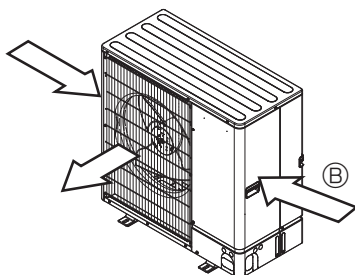

Fig. 2-23
- ③ Position the unit so that the air outlet blows perpendicularly to the seasonal wind direction, if possible. (Fig. 2-23)
(2) When installing a single outdoor unit (Refer to the next page)